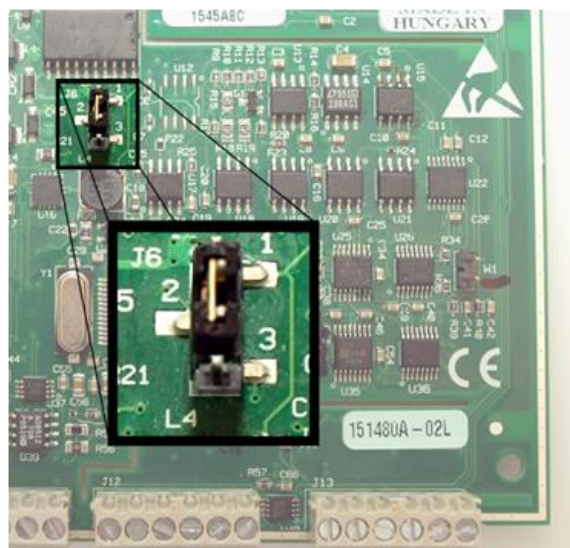

Figure 11. Location of J6 jumper
5. Configure jumper **J6** for either pull-up (pins 1-2) or pull-down (pins 2-3). The jumper is configured by default for pull-up. Figure 11 shows the location of the jumper on the board.